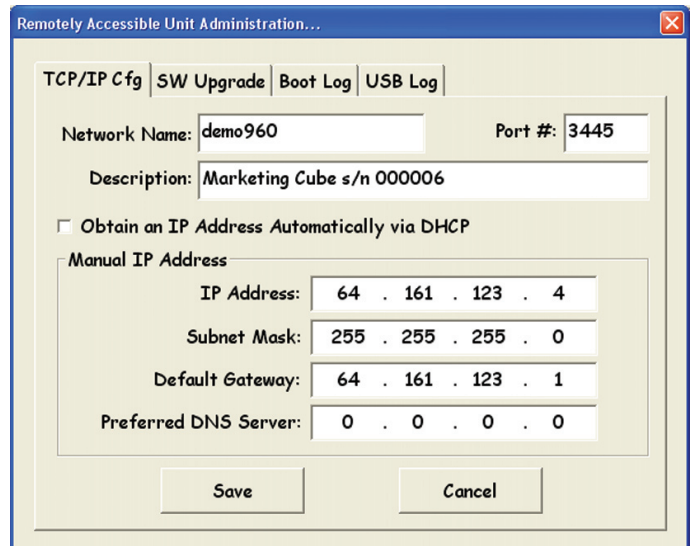

Figure 5.2.1 Remote Control TCP/IP Configuration
D. The TCP/IP Configuration window is shown in Figure 5.2.1. Enter the static IP, Netmask and Gateway addresses, or select DHCP addressing. If you are not sure which way to configure the port ask your network administrator.